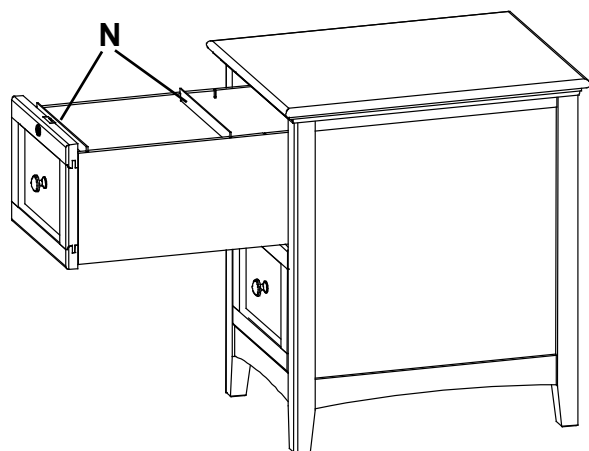

**Fig. 3**
3. Store your letter-sized hanging folders either parallel or perpendicular to the front of the drawer. Legal-sized folders must hang perpendicularly. To hang your files perpendicularly, remove the Plastic File Rails (M). See Figures 3 and 3a. There are slots on the sides of the drawers. Insert an Aluminum File Rail (N) into the slots nearest to the Drawer Face (D or E). Insert another Aluminum File Rail (N) into the second set of notches for letter-sized folders or the third set of notches to hang legal-sized folders. See Figures 3b and 3c.